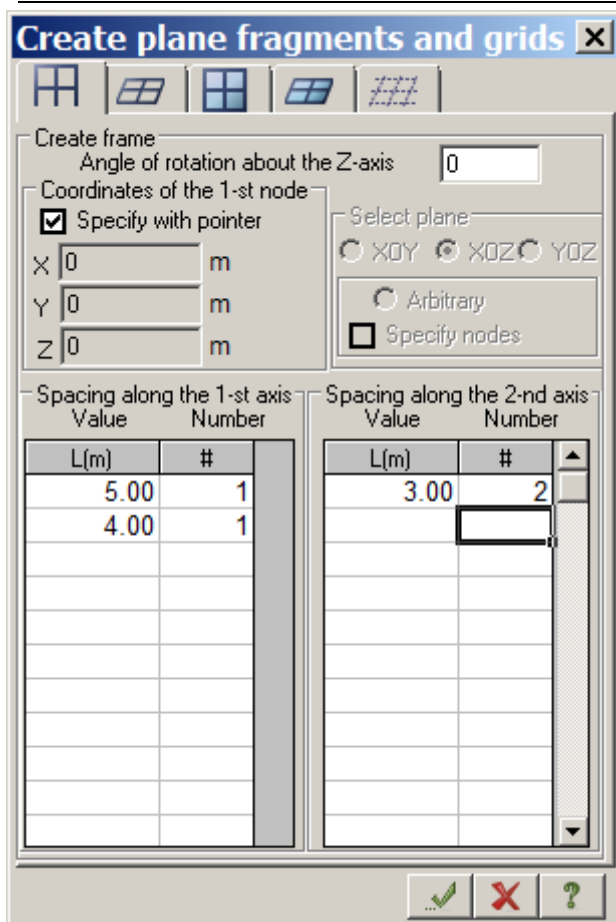

Figure 4.3 Create plane fragments and grids dialog box
- other parameters remain by default (see Fig.4.3).